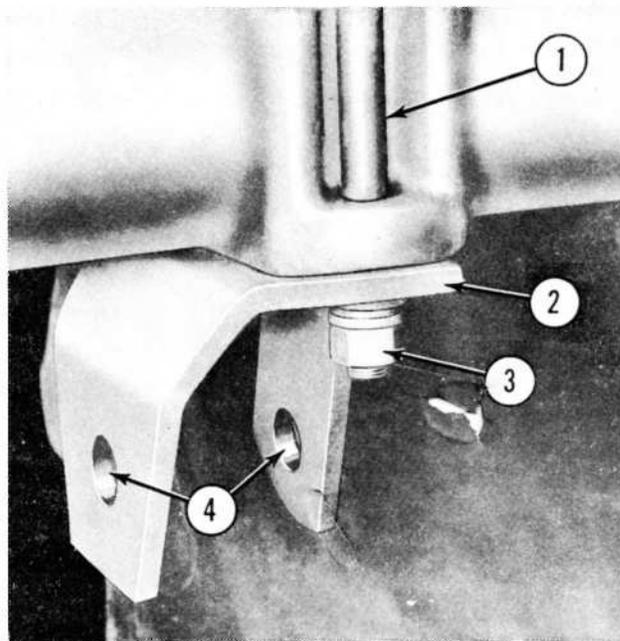

Figure 26
- a. Remove the hex nuts (3), Figure 26, and lockwashers from each of the four fender bolts (1).
- b. Attach one rear mounting bracket (2), Figure 26, to each side of the tractor using the four fender bolts (1), lockwashers and hex nuts (3). Do not tighten nuts.
1. Secure the rear of the loader frame to the rear mounting brackets, see (2), Figure 26, with two $1" \times 4\frac{1}{4}"$ round head pins through the loader frame and mounting brackets, see (4), and two $\frac{1}{4}" \times 2"$ cotter pins. Secure bracket bolts.